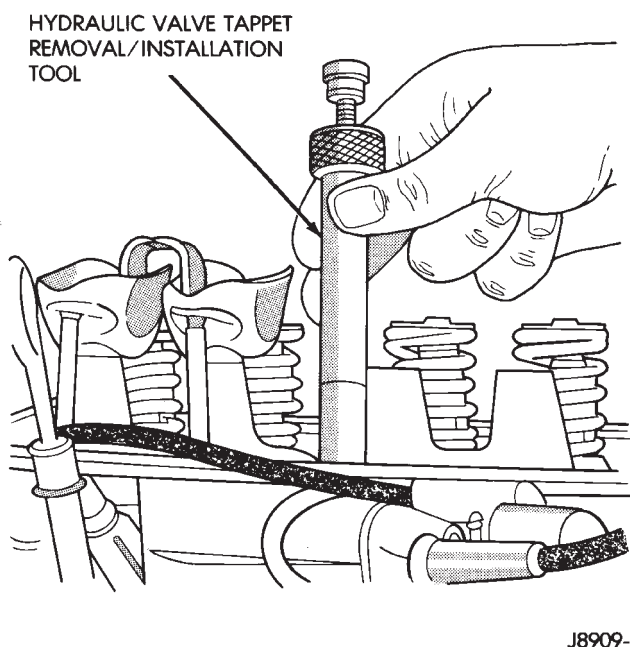

Fig. 39 Hydraulic Valve Tappet Removal/Installation Tool
(1) Remove the engine cylinder head cover (refer to procedure earlier in this section)
(2) Remove the bridge and pivot assemblies and rocker arms by removing the capscrews at each bridge. Alternately loosen each capscrew, one turn at a time, to avoid damaging the bridges.
(3) Remove the push rods.
(4) Remove the tappets through the push rod openings in the cylinder head with a Hydraulic Valve Tappet Removal/Installation Tool (Fig. 39).